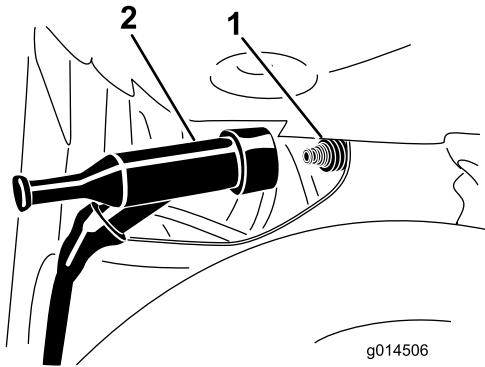

Figure 46
3. Pull the spark-plug wire off the terminal of the spark plug (Figure 46).
4. Push the spark-plug wire onto the terminal of the spark plug (Figure 46).